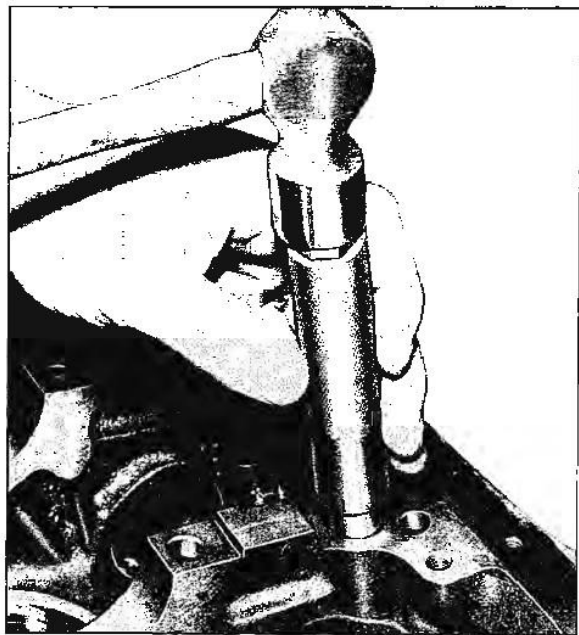

Fig. 6-73 Installing Distributor Lower Bushing
1. Using tool J-9535 with driver-bolt in driver handle or other suitable tool, install new bushing (Fig. 6-73).